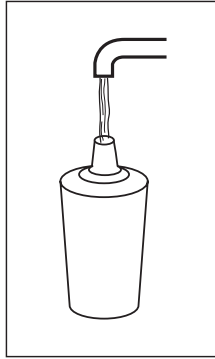

Fig. 20
- Fill the filter with water (**Fig.20**)